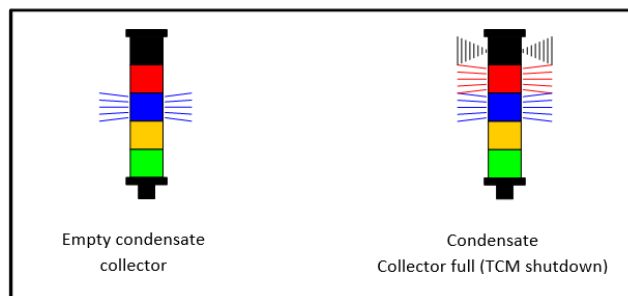

Figure 16
4.1.6. During TCU operation, condensate will be produced by the air conditioning unit (ACU). Condensate will be collected in the condensate container. The beacon will indicate the state of the condensate container. Failure to empty the condensate container will result in automatic TCU shutdown to prevent further condensate being produced (Figure 16):